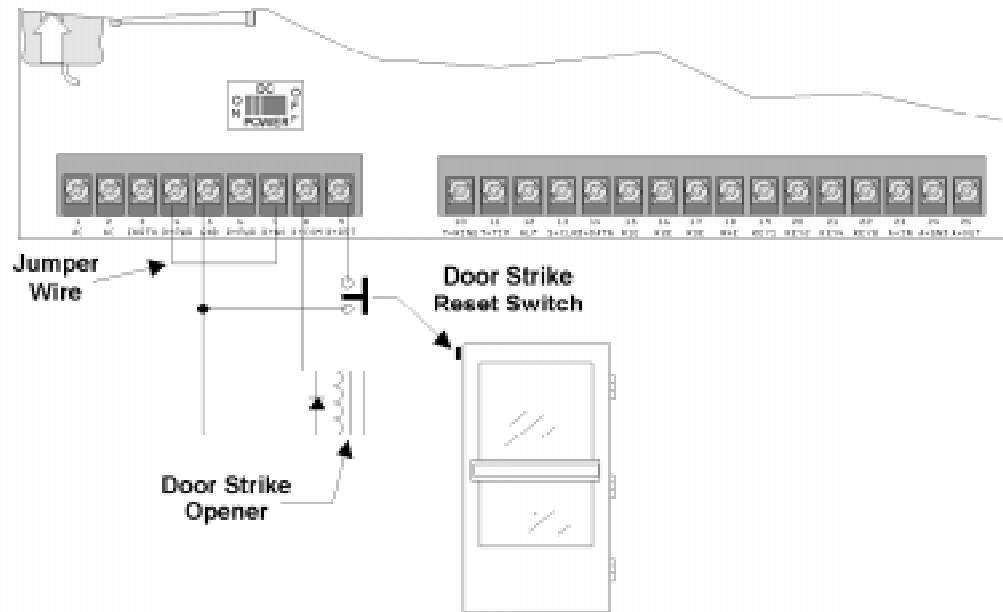
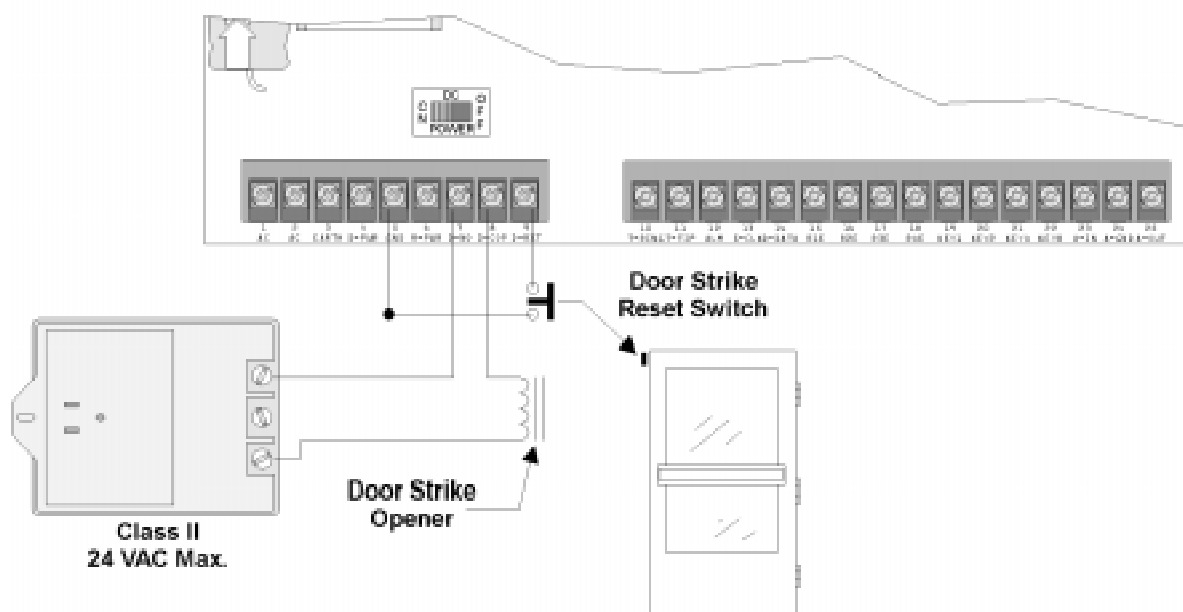

Figure 3-11: DC Doorstrike Wiring Diagram
Figure 3-12: AC Doorstrike Wiring Diagram
2. For a DC power doorstrike place a jumper wire between terminals 4 and 7 (see Figure 3-11).
3. Connect the doorstrike to terminals 5 and 8 (see Figure 3-11).
4. Install a reverse bias diode (1N5401 supplied with the 5073 and 5074 panels) across the DC doorstrike coil to suppress arcing and electrical noise. (See Figure 3-11.)
2. Wire a transformer (24 VAC maximum) in series with the door strike opener, to terminals 7 and 8. (See Figure 3-12.)
1. Wire the contact to terminals 5 and 9. (See Figure 3-11 and Figure 3-12.)